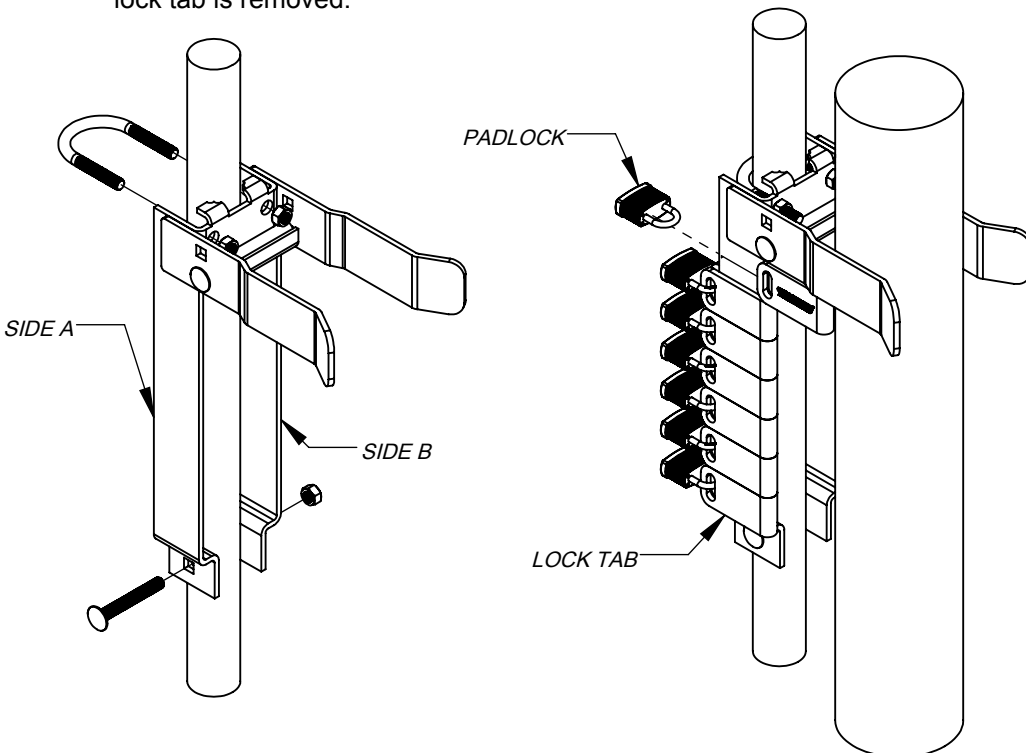
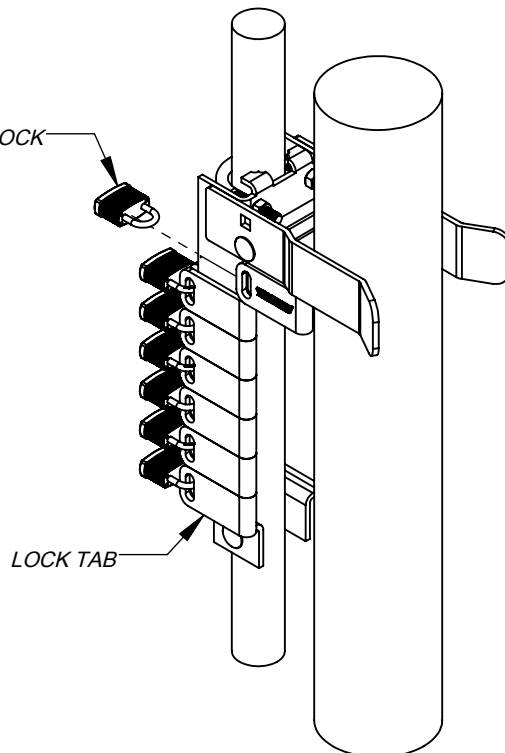

Figure 3
Figure 4
3. Mount the latch to the gate frame using the u-bolt with two nuts, and the 2.75" long bolt with one nut (Figure 3).
4. With the arm in the down position, place all the lock tabs onto the side of the latch that will be used for locking, either Side A or Side B as shown in Fig. 3, and place a separate padlock (not included) on each tab to lock it (Figure 4). All lock tabs must be on the same side of the latch to lock the latch. To open the latch, unlock any individual tab and remove it from the latch. To relock the latch, place the tab back onto the side of the latch with the other tabs and place the padlock onto the tab.